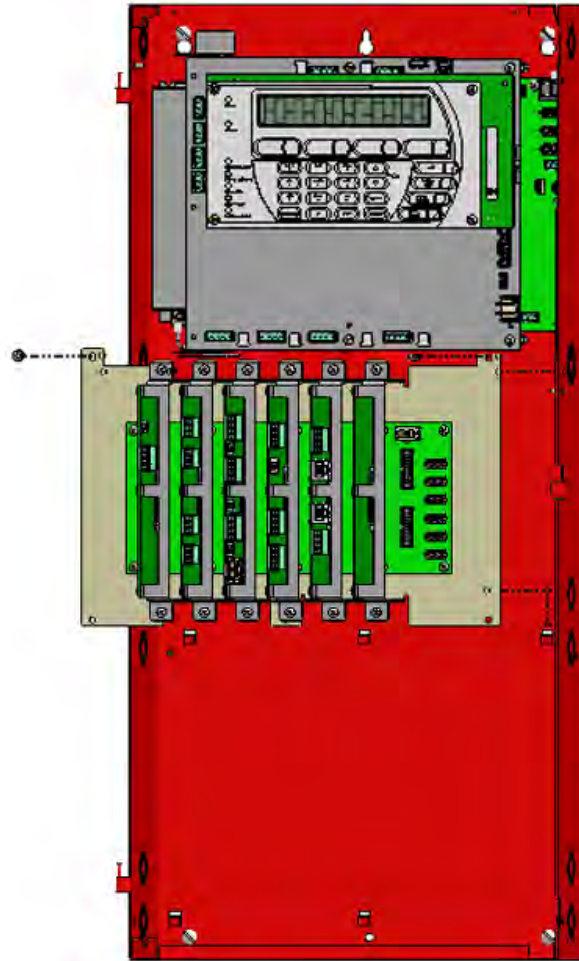

Figure 2-18. Installing the Expansion Card Cage
7. Orient the Card Cage as shown in Figure 2-18 below.